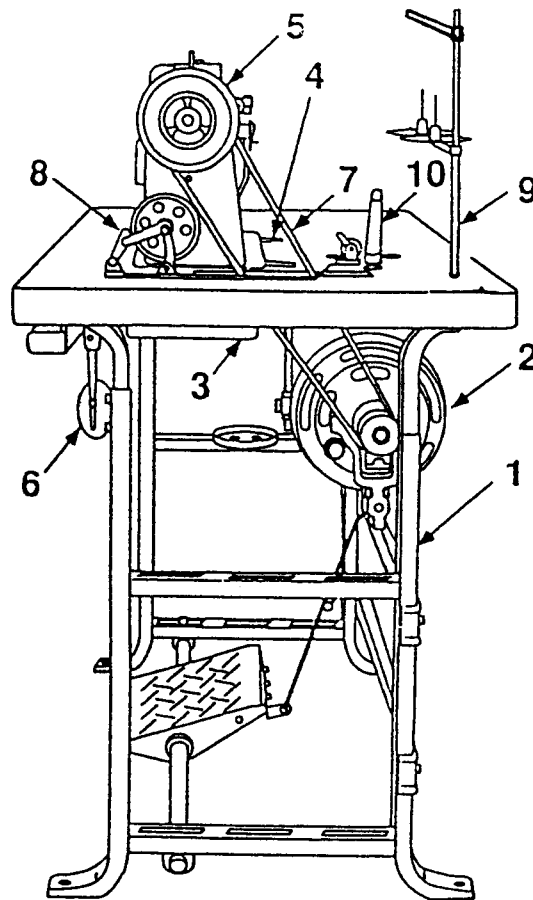

Fig.1
SETTING UP THE MACHINE (Fig.1)
1. Push a bobbin on the bobbin winder spindle (3) as far as it will go.
2. Pass the thread from the thread stand downward through the eye (1) in the tension bracket, then between and around the back of the tension disc (2).
4. Push the lever (4) toward other side so that the pulley and V belt (7, Fig.1) will engage and then start the machine.